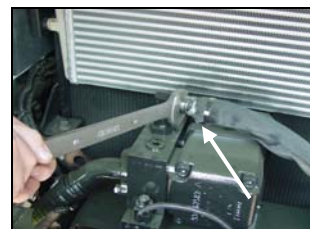

Figure 6 Remove hydraulic pressure hose
6. Remove the one-inch hydraulic pressure hose. (Figure 6)